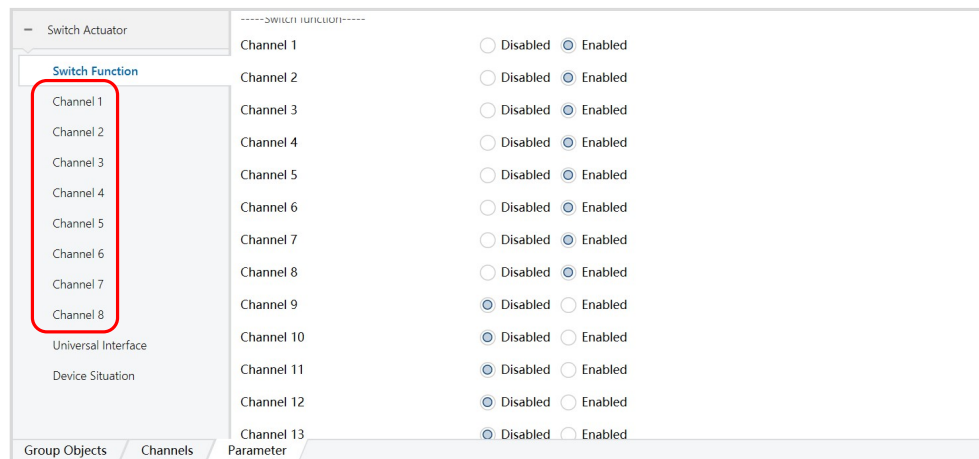

Figure 6.1.2
2) After the setting is completed, the interface is shown in Figure 6.1.2, and there are 8 options in the red box as shown in the figure